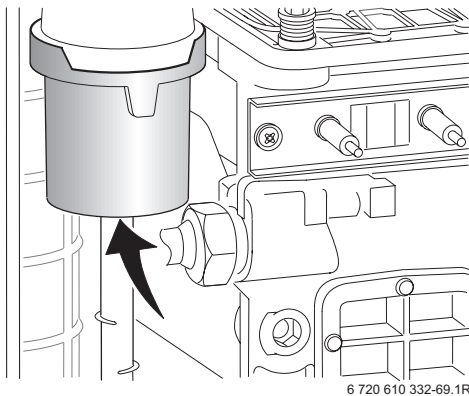

Fig. 48
- Unscrew the two fixing screws and carefully remove the electrode assembly. Refer to fig. 48.